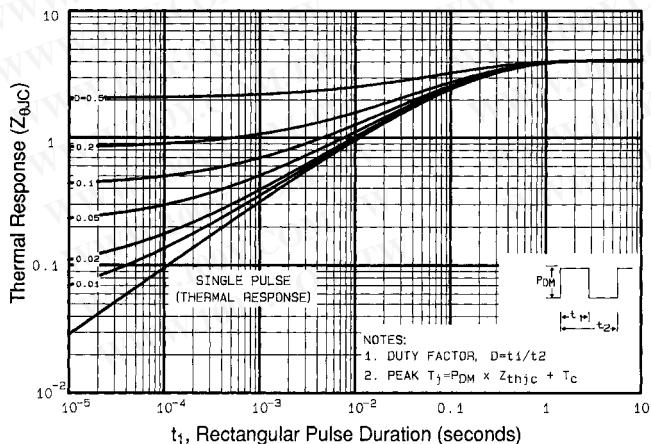

Fig 11. Maximum Effective Transient Thermal Impedance, Junction-to-Case
① Repetitive rating; pulse width limited by max. junction temperature (See Figure 11)
③ $I_{SD}\leq 5.2\text{A}$, $di/dt\leq 95\text{A}/\mu\text{s}$, $V_{DD}\leq V_{(\text{BR})\text{DSS}}$, $T_J\leq 150^\circ\text{C}$
⑤ $t=60\text{s}$, $f=60\text{Hz}$
② $V_{DD}=50\text{V}$, starting $T_J=25^\circ\text{C}$, $L=8.9\text{mH}$